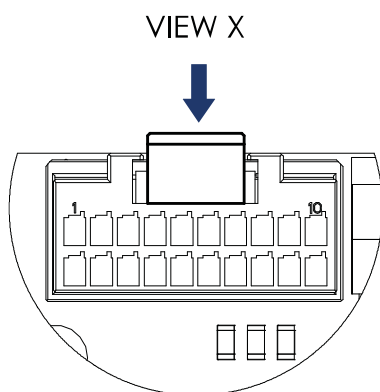
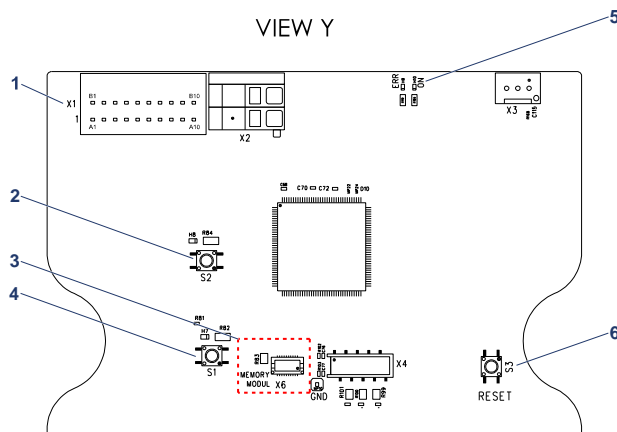

Fig. 2: Pushing down the locking tab at connector X1
Fig. 3: Detailed view of board
The memory module is plugged into the upper half of the board located in the top part of the housing (→ Fig. 3 /3).
2. In the top part of the housing at connector X1 (→ Fig. 3 /1), push down the locking tab (→ Fig. 2) and carefully pull off the connection cable.
4. Insert the connection cable again into connector X1 in the top part of the housing (→ Fig. 3/1).
5. In the top part of the housing, press the buttons S1 (→ Fig. 3/4) and RESET (→ Fig. 3/6) simultaneously.
- ▶ The yellow LED H8 at button S2 starts blinking, first fast and then slower (→ Fig. 3/2).
- ▶ Programming is finished when both LEDs H7 and H8 are off and the green LED ON (→ Fig. 3/5) blinks evenly.
7. Carefully pull off the connection cable at connector X1 (→ Fig. 2) in the top part of the housing.